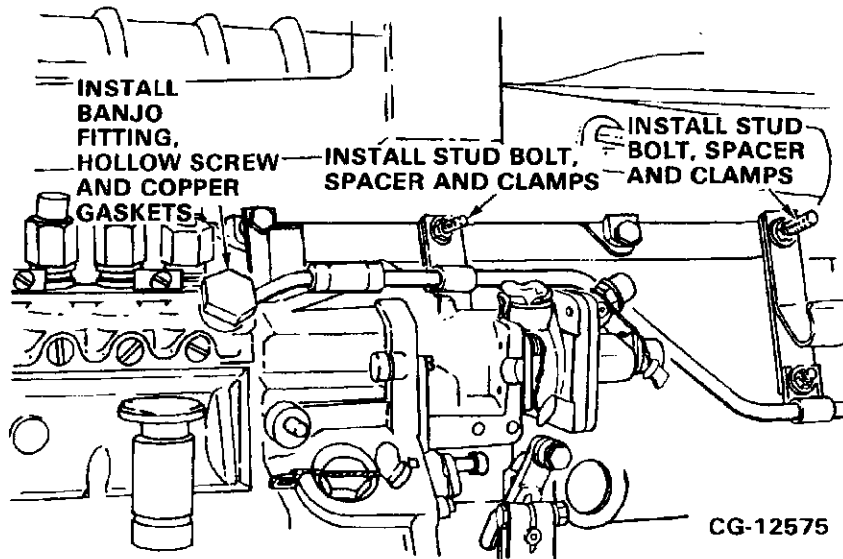

Figure 11.125. Fuel Return Tube and Clamp Installation
c. Reconnect the fuel return tube to the pump using new copper gaskets and hollow screws at the banjo fitting. Refer to Figure 11.125.
b. Install the clamps, washers, spacers and fuel return tube. Tighten the "patch" stud bolts to the specified special torque. Refer to Figure 11.125.